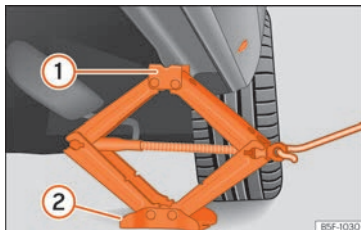

Fig. 41 Cross member: positioning the jack on the vehicle.
- Turn the jack* crank handle, located below the strut support point, to raise it until the tab ① >>> Fig. 41 is below the housing provided.
- Align the jack* so that tab ① "grips" onto the housing provided on the strut and the mobile base ② is resting on the ground. The base plate ② should fall vertically with respect to the support point ①.